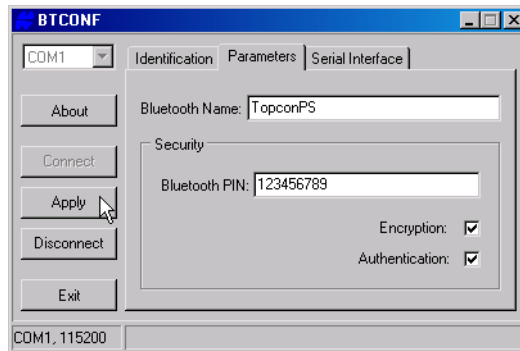

Figure 2-31. BTCONF Security Parameters
7. To set security parameters (Figure 2-31 on page 2-47), enter and enable the following, then click **Apply**: